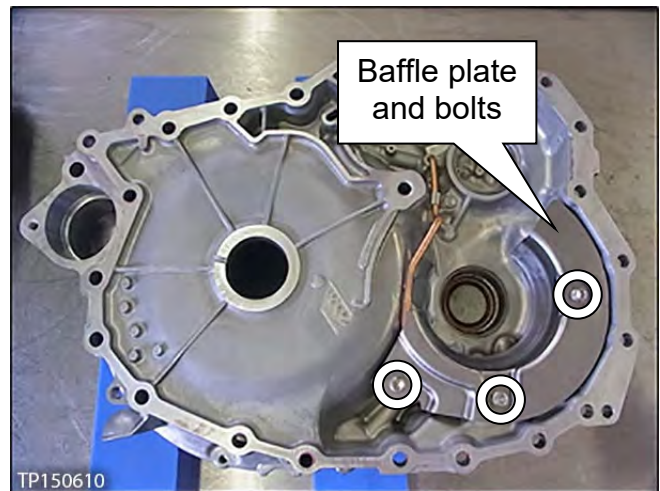

Figure 58
8. Install the baffle plate with three (3) bolts (see Figure 58).